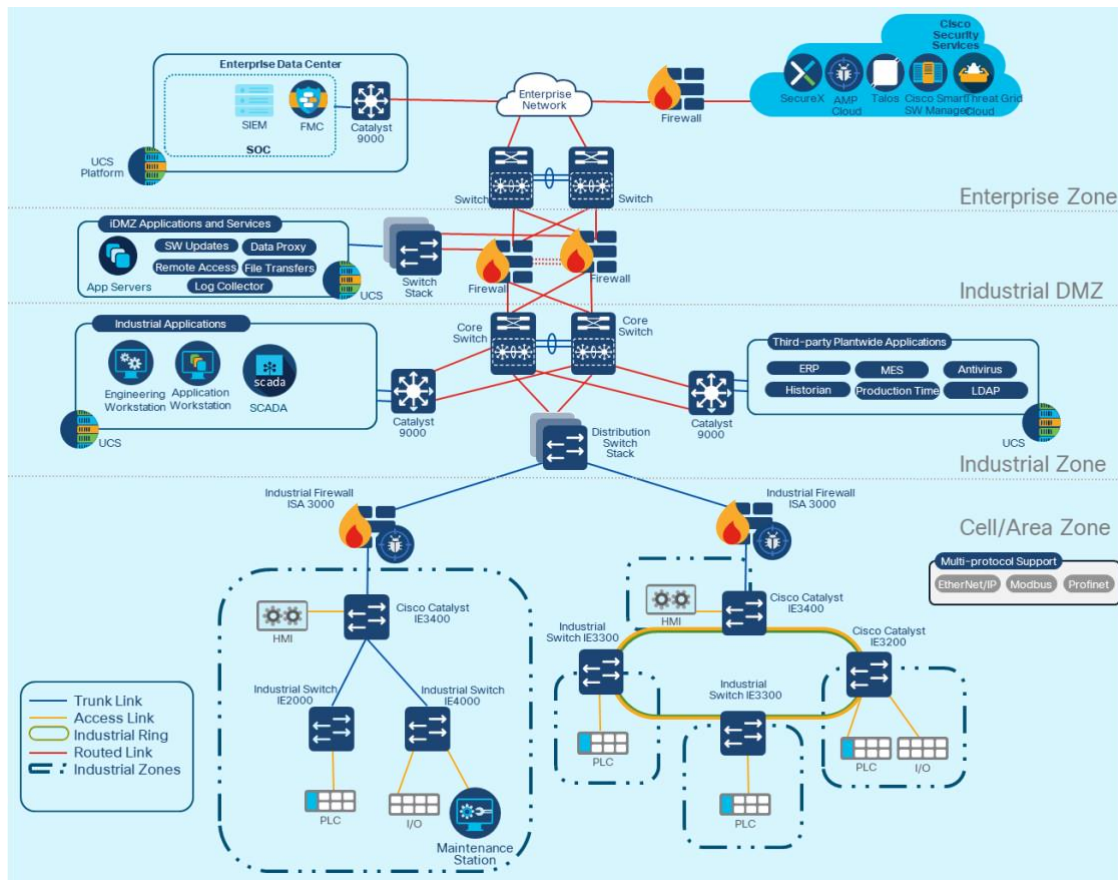

Figure 3-2 - Industrial Automation Reference Architecture
- As a part of this architecture reference (figure 3-2), we will describe how the Cyber Vision platform (Center and Sensors) should be deployed in these environments.